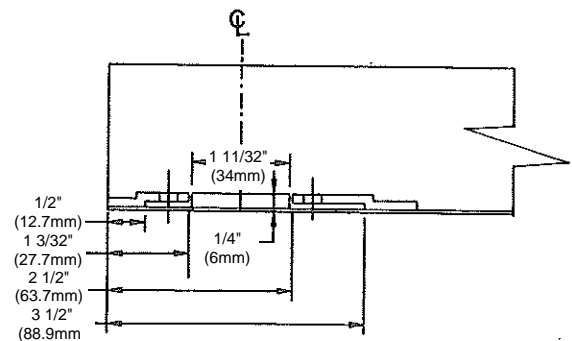

Figure 8-2
- 1-2 To weld two 3mm thick hold plates on the frame as per Figure 8-2.